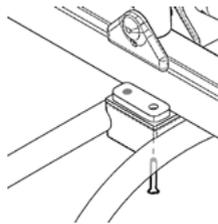

Fig. 9
4. Insert second bolt through attachment cradle and stretcher adjustment and screw into the remaining threaded hole on the fixing brace (See Fig. 9).